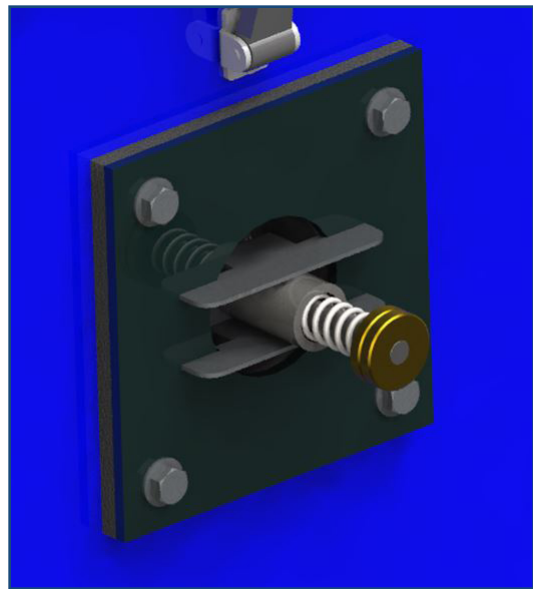

Figure 10. Adjusting Vacuum Relief Valve
1. Turn the two brass knurled nuts opposite directions so the inside nut turns freely. (Two brass knurled nuts are located on the side of the recovery tank - see Figure 10.)